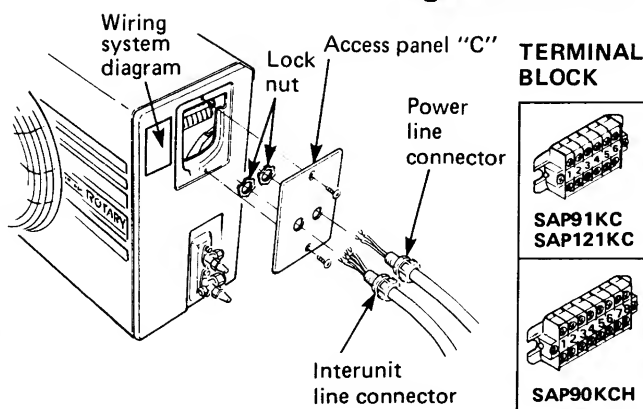

Fig. 22
- d) When connections are completed secure both connections on the panel with lock nuts and then close the panel. Fig. 22